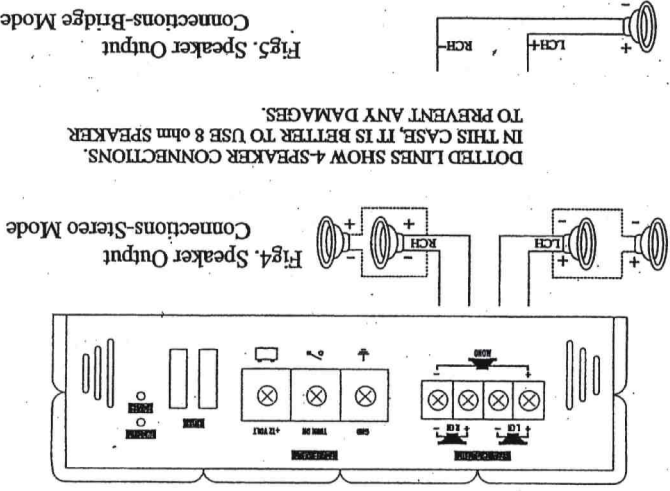

Fig. 4. Speaker Output
- The amplifier can be used in the STEREO and BRIDGED mode as shown in Fig. 4, Fig. 5.